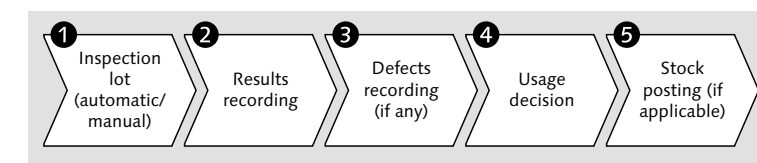

Figure 3.1 Inspection Lot Processing
Figure 3.1 illustrates a straightforward business process of quality inspection. The process begins when the system automatically or business user manually creates an inspection lot ❶, which is the beginning of the necessary inspection process. The quality inspector records the inspection results ❷, records any defects ❸, and makes usage decision ❹. The results recording step is the actual and factual data entry of results of each characteristic that is slated for inspection. The inspection results help you decide whether to use the material for further processing, such as in procurement, production, or sales. The stock posting ❺ is the last step in quality inspection and determines whether the stock kept in quality inspection will be released to unrestricted use, blocked, scrapped, or returned to the vendor. Several inspection types are not stock based; that is, no stock posting is required, and the quality inspection process ends with usage decision only.